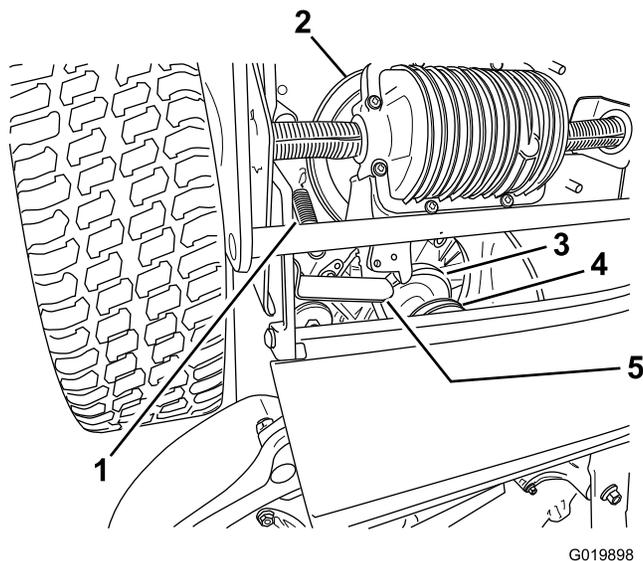

Figure 37
8. Avancez la patte (Figure 37).